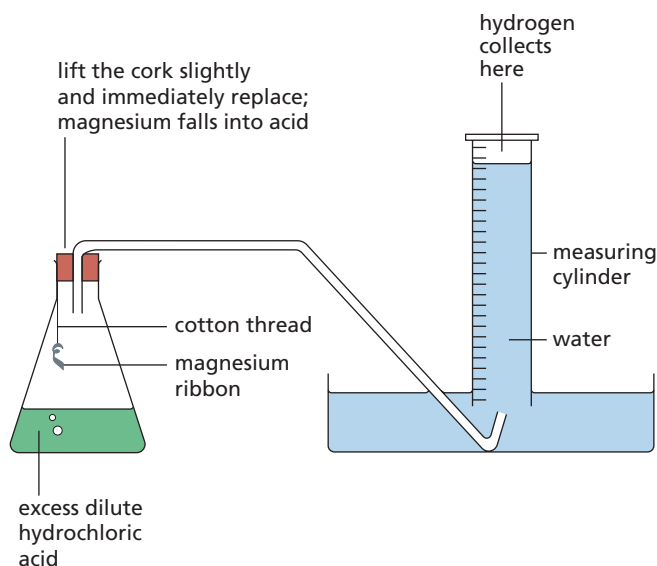

Figure 16.2 Measuring the molar volume of a gas at rtp.
- Measure the molar volume at rtp for hydrogen. Use a flask with a delivery tube and collect the gas over water in an inverted measuring cylinder or burette (Figure 16.2). Put an excess of dilute hydrochloric acid, say 100 cm^3 of 2 mol dm^{-3} acid, in the flask and add a piece of magnesium ribbon whose mass is known accurately and is about 0.1 g. (It is useful to measure the mass of a 1 m length of ribbon and then the mass of a smaller length can be calculated.) Measure the volume of hydrogen collected in the measuring cylinder or burette.